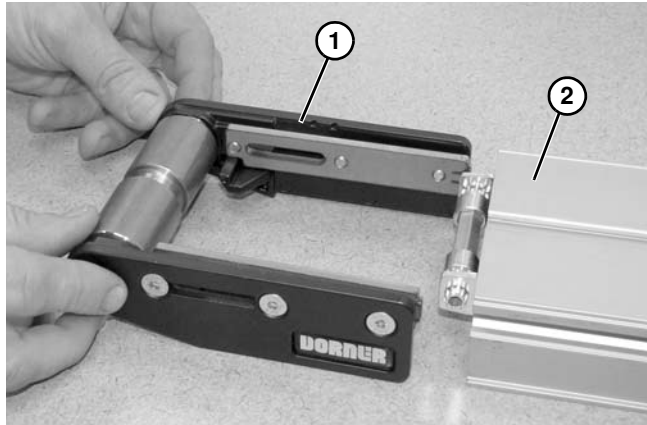

Figure 141
2. Remove idler tail (**Figure 141, item 1**) by sliding off of the conveyor (**Figure 141, item 2**).